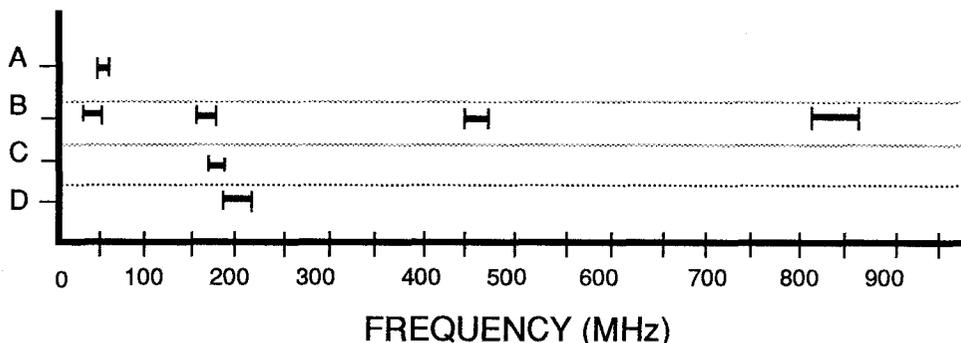

Figure 10-32. Wireless microphone frequency bands used in the United States
In the United States, the FCC regulates the operation of wireless mics at specified frequency bands. Frequency bands typically used are shown in Figure 10-32. The applicable Federal Communications Commission regulations are as follows:
• Low power communication devices may operate in the 49.81 MHz to 49.90 MHz band (Figure 10-32 (a)). Power is limited to 10,000  $\mu\text{V}/\text{M}$  radiation at a 3 meter distance (approximately 1 to 5 mW) and with a 5 kHz audio frequency limit. This segment of the RF spectrum is susceptible to man-made noise generated by auto ignition, fluorescent lights, dimmers, etc. The restriction imposed by the FCC on low-power equipment aggravates the problem of signal-to-noise ratio in this band. Because these frequencies are evenly spaced (15 kHz apart), only three wireless mics can operate simul-
mics are: 30.76 MHz to 43 MHz, VHF low-band; 150 MHz to 173.4 MHz, VHF high-band; 457MHz to 470 MHz, UHF low-band; and 806 MHz to 866 MHz, UHF high-band (Figure 10-32 (b)). At 150 MHz and higher, man-made noise decreases significantly. With the higher power and larger transmission bandwidth allowed by the FCC, along with many more available frequencies and the shorter antenna requirement, operation in the VHF high-band and higher is desirable. The major disadvantage is interference from other business radio services. An operating station license is required and the
transmitter must be type accepted under FCC regulations. Contact your local FCC office for a Form 25 if you want to obtain a license. Anyone can operate a wireless mic system at these frequencies. Specific frequencies designated in this part of the regulation for wireless mics are known as "B frequencies." The bands are from 169.445 MHz to 170.245 MHz, from 171.045 MHz to 171.845 MHz, from 169.505 MHz to 170.305 MHz and from 171.105 MHz to 171.905 MHz (Figure 10-32 (c)). "B" frequency transmissions must not exceed a bandwidth of 54 kHz and output power of 50 mW.
- For broadcasting, video production, and filmmaking applications, wireless mics may operate in the 174 MHz to 216 MHz range (TV channels 7 thru 13), on a non-interference basis. (Figure 10-32(d)). This means that for a given location, wireless mics may operate on unused TV channels. Transmitter power is limited to 50 mW. An operating station license is required for broadcasters and filmmakers and the transmitter used must be type accepted under FCC regulations. This VHF high-band offers the best operating area for wireless mics. It is free of citizens band (CB) and business radio interference, and any commercial broadcast stations that might cause interference operate on a schedule, and thus can be avoided easily.